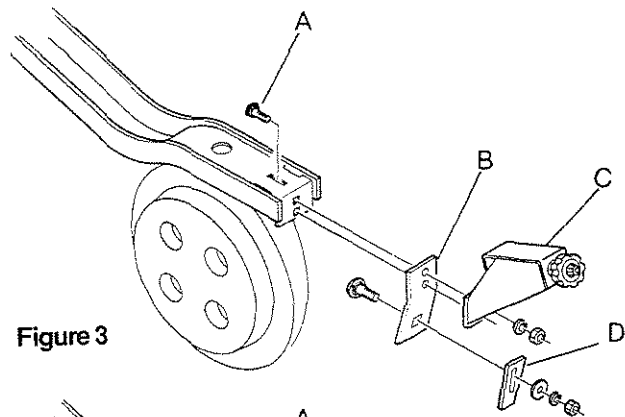

Figure 3
1. Remove $\frac{3}{8}$ " x $1\frac{1}{4}$ " long carriage bolt (A), washers and hex nuts which hold scraper mounts (B) and press wheel knob adjust bracket (C) in position (see figure 3).
2. Remove inside scraper (D) from scraper mount (B). Scraper mount (B) is no longer needed.